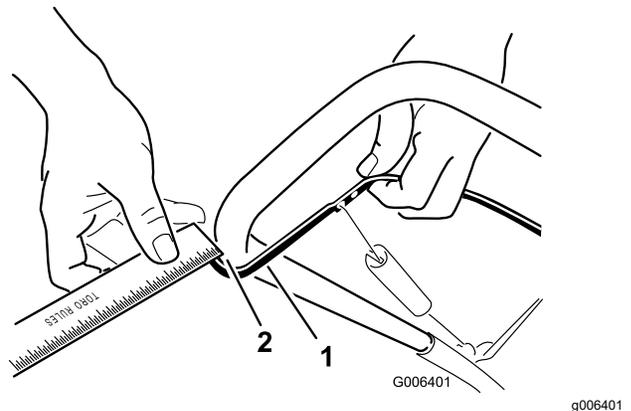

Figure 18
Note: Ensure that a 2 to 3 mm (1/16 to 1/8 inch) gap exists between the control bar and the handle (Figure 18).
Move the control bar back toward the handle to remove the slack in the control cable (Figure 18).
- Move the Z-fitting to a higher or lower hole on the adjuster link as needed to obtain the 2 to 3 mm (1/16 to 1/8 inch) gap between the control bar and the handle (Figure 18).